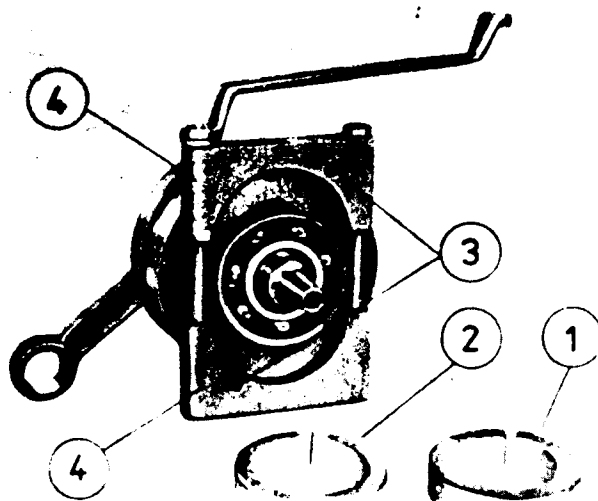

Fig. 7. Applying the ball-bearing extractor
- (A) Separating plate for bearings of the layshaft
- (B) Seal ring carrier with lock ring
- (C) Seal ring D 20 × 30 × 7
When the crankshaft bearings have been left on the crankpins during the dismantling of the crankshaft, they can be pulled off, as is shown in the Figs. 7 and 7a, by means of the ball-bearing extractor 22-50.431 and the rings (1) 22-50.432 (regarding the engines MM 125/2 – 150/2) and (2) 22-50.434 (regarding the engines MM 125/3 – 150/3) on the side of the dynamo. The clamping pieces (4) have to be pressed between crankshaft and bearings by means of a vice or the two screws M 8 × 100.